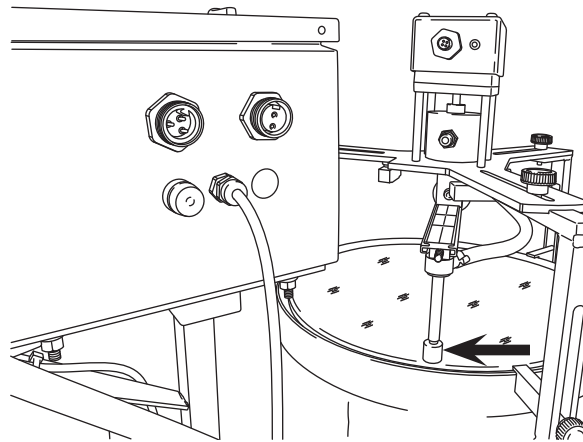

Figure 15
3. Manually rotate the drive disc counterclockwise (CCW) until the nozzle and puck are as close to the outer edge of the DPF substrate as possible without touching the canister inner wall, flange wall, or until the puck is fully rested in the filter substrate. (Figure 15)